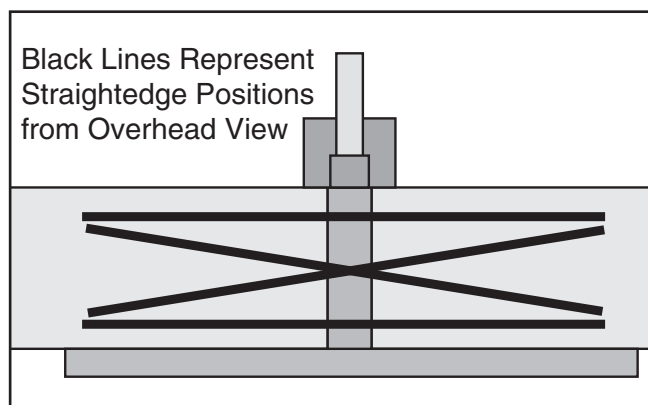

Figure 62. Straightedge positions for checking infeed/outfeed table parallelism.
3. Place the straightedge in the positions shown in **Figure 62**. In each position, the straightedge should sit flat against both the outfeed table and the infeed table—you should not see any gaps between the bottom of the straightedge and the infeed table.
3. Place the straightedge in one of the positions shown in **Figure 62**.
- Continue adjusting the infeed table until it is parallel with the outfeed table in each of the positions shown in **Figure 62**. Some trial and error and a good deal of patience will be needed to successfully accomplish this adjustment.